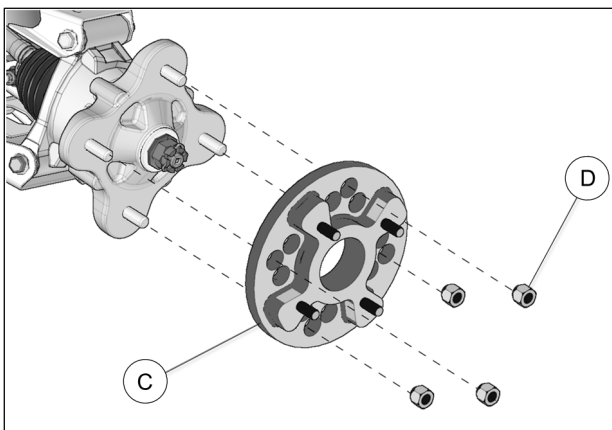

Fig. 5
- Install the 1-inch (25 mm) spacer (C) on the wheel hub. Use the M12x1.5 wheel nuts (D) supplied. See Fig. 5